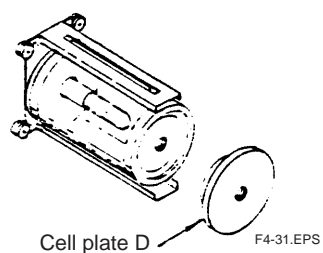

Figure 4.31
4. Remove cell plate D (Figure 4.31)